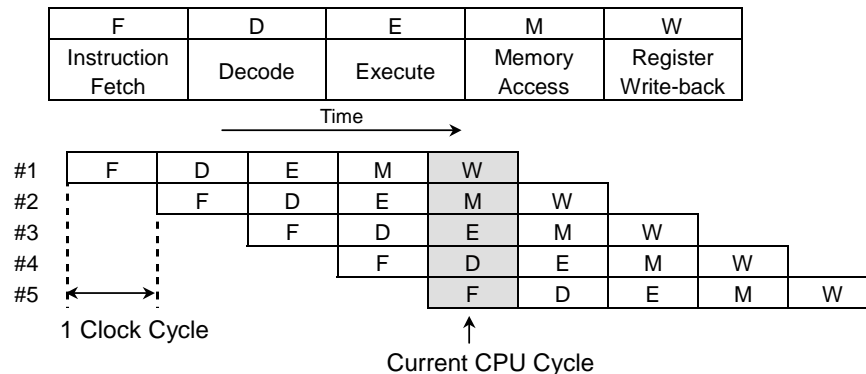

Figure 2-8 TX19 Pipeline
The TX19 has a five-stage pipeline. That is, the execution of each instruction consists of five primary stages. Each stage takes approximately one clock cycle; thus the execution of each instruction takes at least five cycles. (The JAL and JALX instructions in the 16-bit ISA mode take longer.) The five-stage pipeline divides the execution of each instruction into five discrete portions and executes up to five instructions simultaneously, as shown in Figure 2-8. The five pipe stages are Fetch (F), Decode (D), Execute (E), Memory Access (M) and Register Write-back (W). The TX19 achieves an instruction execution rate approaching one instruction per clock cycle.